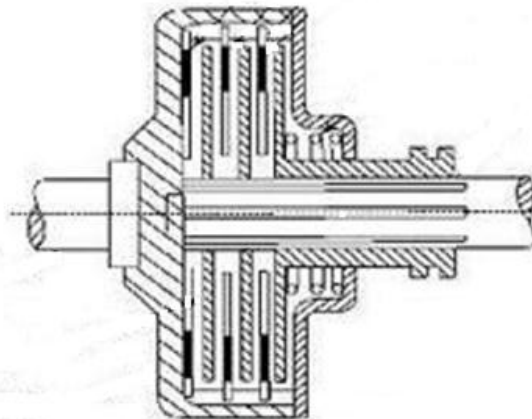

FIGURE 1
- 1.4 Refer to FIGURE 1 of a clutch below and answer the questions.
- 1.4.1 Name the type of clutch shown in FIGURE 1. (1)